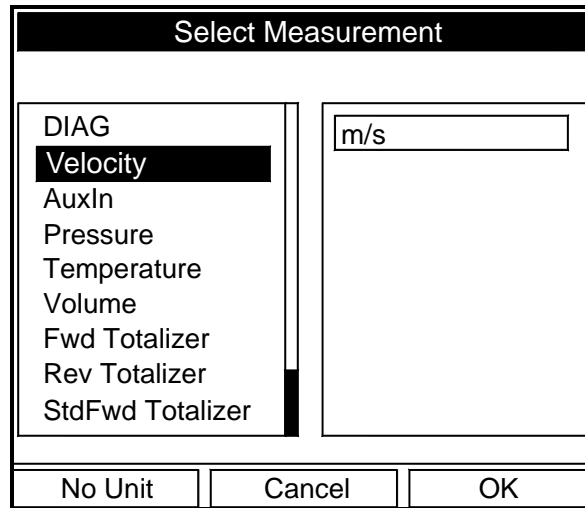

Figure 1-23: Data Source Selection Window
2. Scroll to the next prompt and select the Data Source measurement type from a list of choices (see Figure 1-23 on page 1-22).
- e. Press [F3] (OK) to confirm your selection.